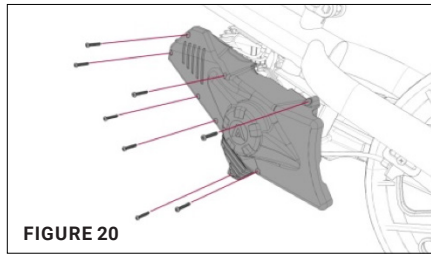

FIGURE 20
2. Remove the left side protective cover. [Figure 20]